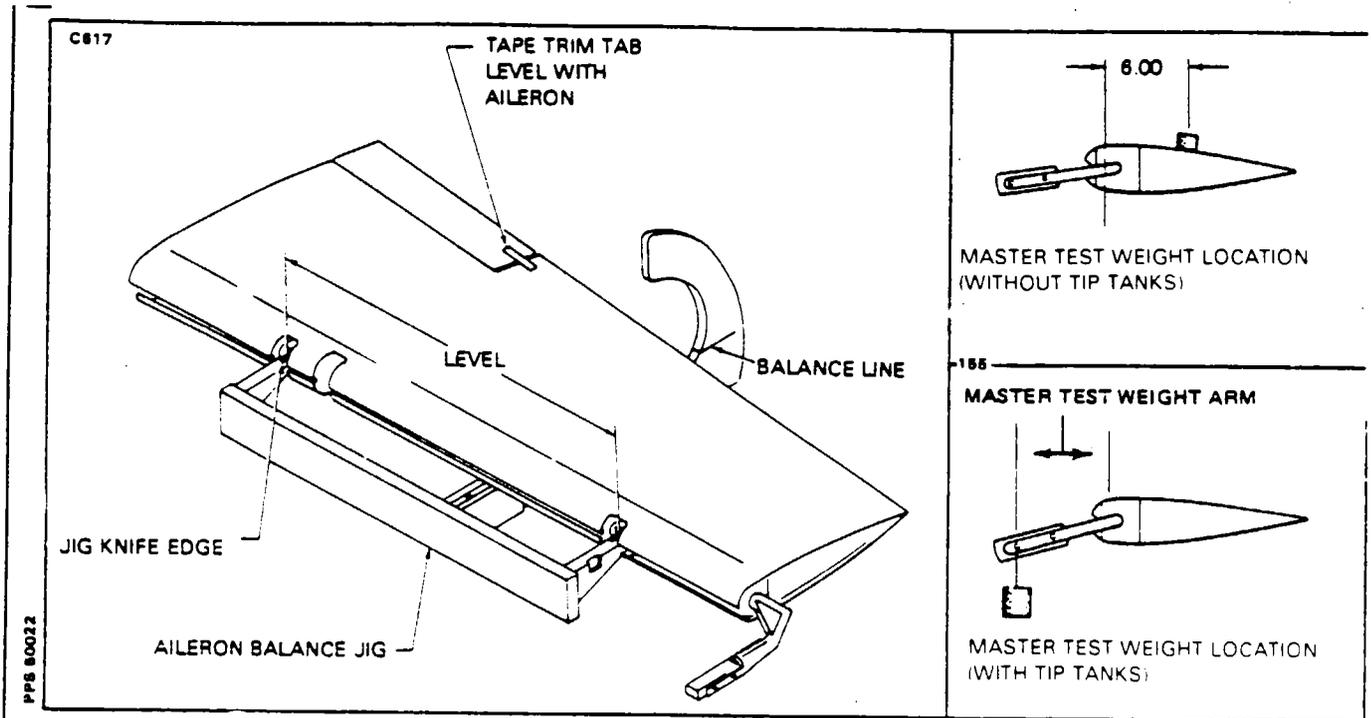

Figure 57-5. Aileron Balancing
**AILERON BALANCING PROCEDURE.** (Refer to Figure 57-5 and Chart 5701.)
2. Place the aileron on a balancing jig as illustrated in Figure 57-5. Establish a horizontal reference mark which aligns with the trailing edge of the aileron when it is held in a horizontal level position (chord line level).